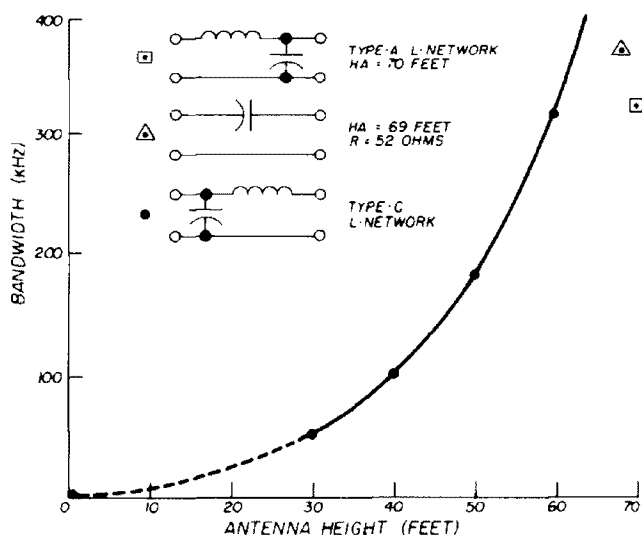

fig. 3. Bandwidth of vertical antennas vs height. Bandwidth edges defined by frequencies at which vswr increases to 2.0:1.
3. Type-C L-network (see fig. 3) used with RG-8/U coaxial cable. Vswr 1.0:1.
4. Type-A L-network (see fig. 3) used with RG-8/U coaxial cable. Vswr 1.0:1.
The last topic for this article is that of the bandwidth for the antenna examples given. For each of these examples the network was designed to make the input impedance seen by the coax feedline to be 52 ohms for a vswr of 1.0:1 at an arbitrary frequency of 3.8 MHz. Another computer program was written which calculated the input impedance versus frequency for the same network and same height vertical. The previous program furnished the changing antenna self impedance versus frequency. The changing input impedance versus frequency was plotted on a Smith chart for 30-, 40-, 50- and 60-foot verticals using one type of L-network; the 69-foot vertical using a series C network; and the 70-foot vertical using a different type of L-network. Bandwidth was arbitrarily defined as being the difference between those frequencies having a vswr of 2.0:1. These bandwidths are shown in fig. 3. As expected, the shorter antennas have a smaller bandwidth. Use of this graph will help you to select an antenna height depending upon what bandwidth is acceptable to you.